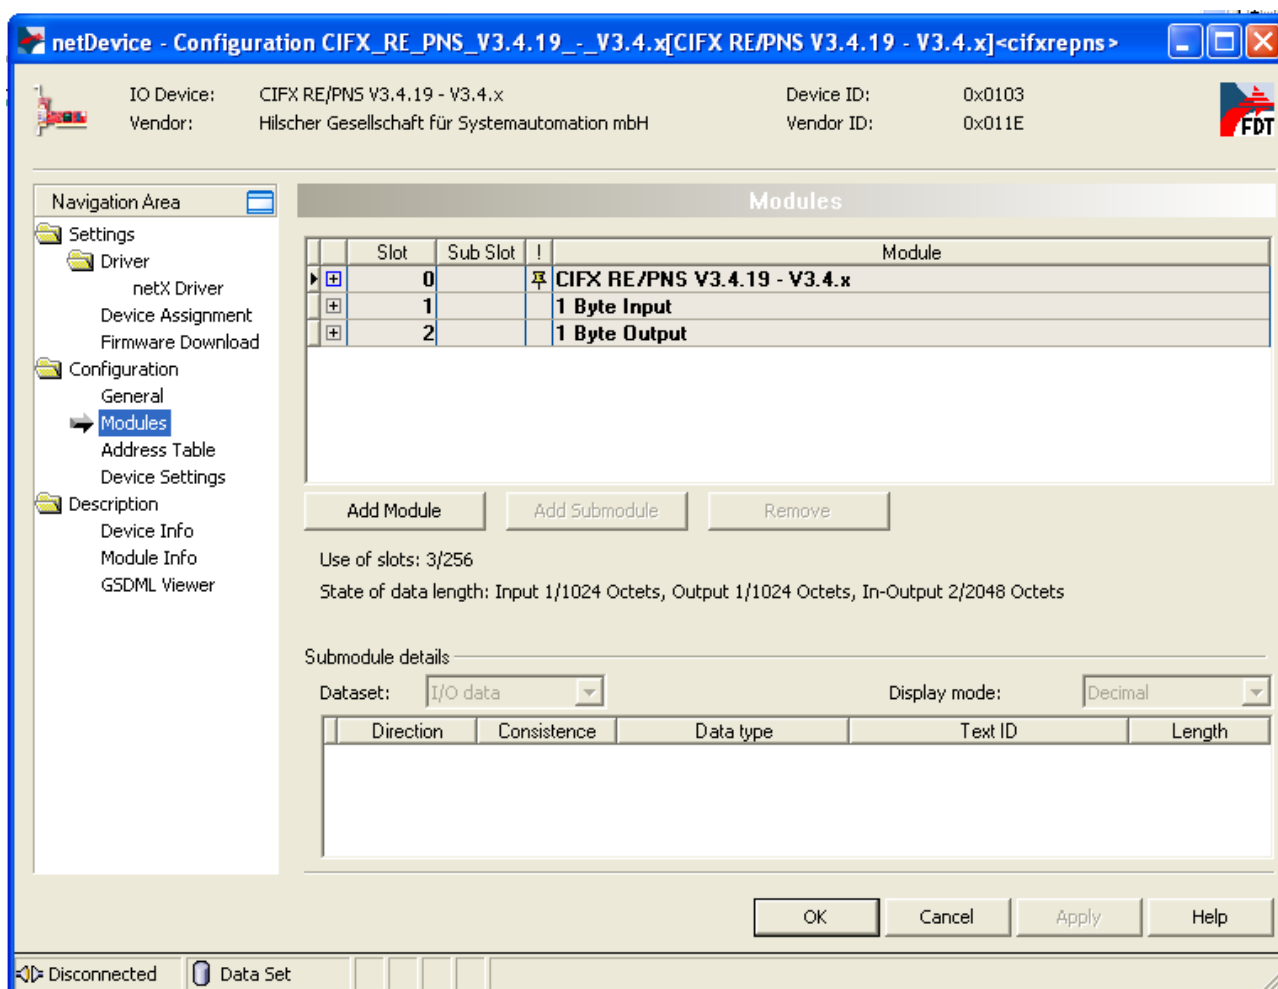

Figure 9: Slave-Module Configuration
- C. Enter Slot and Subslot (see configuration with sycon on Figure 9)